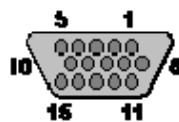

Figure 4-29: VGA Connector
- CN Pinouts:** See **Figure 4-29** and **Table 4-28**